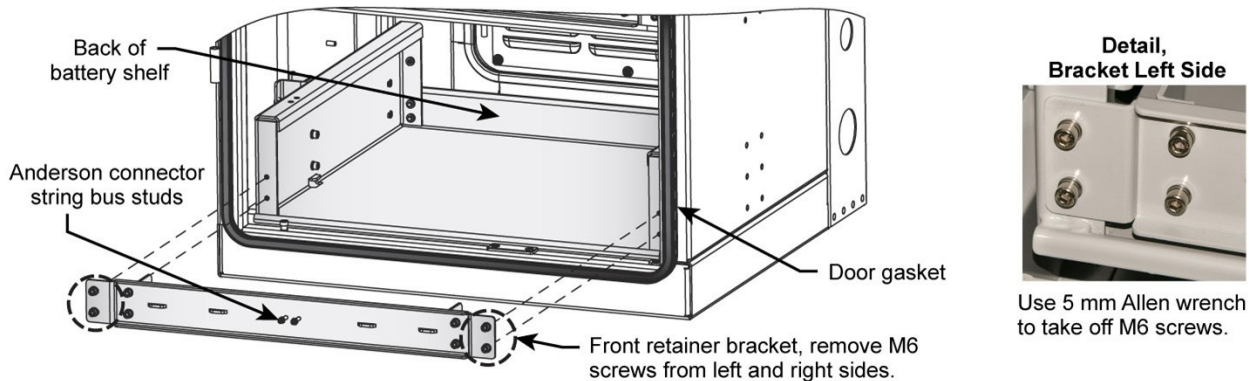
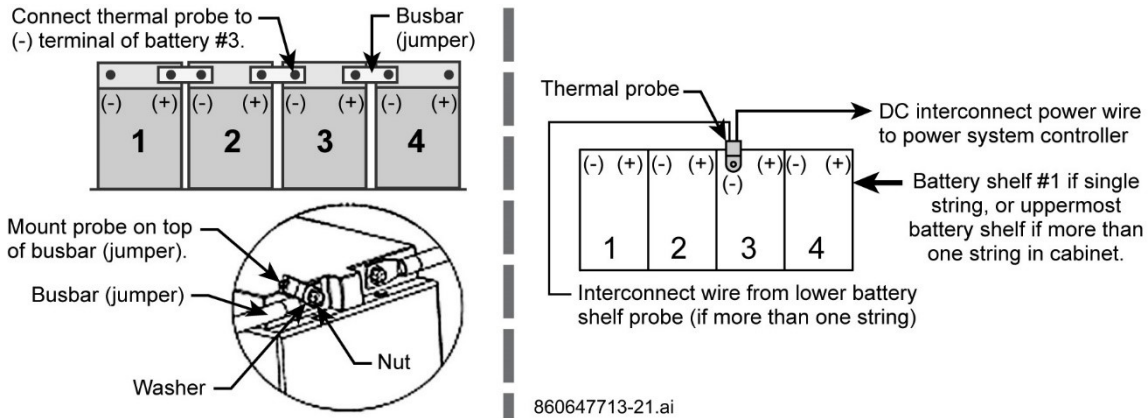

Figure 29. Front Battery Retainer Bracket Removal, VRLA Installation
Figure 30. Example of Battery Busbar and Thermal Probe Connections
3. Remove the battery front retainer bracket, Figure 29.
Note: If cabinet configuration uses Anderson connectors, remove string bus connector from bracket and retain hardware for reinstallation; Figure 29, Figure 30. For standard lug connection to +RTN and -48 V terminals (Figure 32), set cables clear of batteries and do not remove protective covers until ready to connect.
5. Cover the door gasket on the lower door flange to protect it from any damage, Figure 29.
3. Install busbars (jumpers) per Figure 30 from battery kit to configure one -48 VDC string.
4. Place busbars (+ to -) between batteries #1 and #2, #2 and #3, #3 and #4 per Figure 30.
5. Install a thermal probe to the negative terminal of battery #3 for the string, Figure 30.
Note: Seat thermal probe between busbar, flat washer, and nut of per Figure 30. Refer to the SD if installing more than one string of batteries.
11. Reinstall the battery front retainer bracket on each shelf, Figure 29.